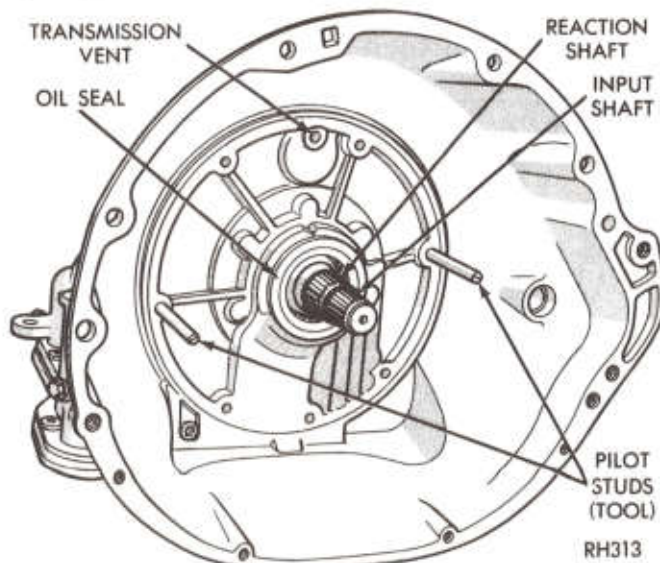

Fig. 49—Installing Oil Pump
(1) Screw two pilot studs Tool C-3288-B in pump opening in the case (Fig. 49). Install a new gasket over